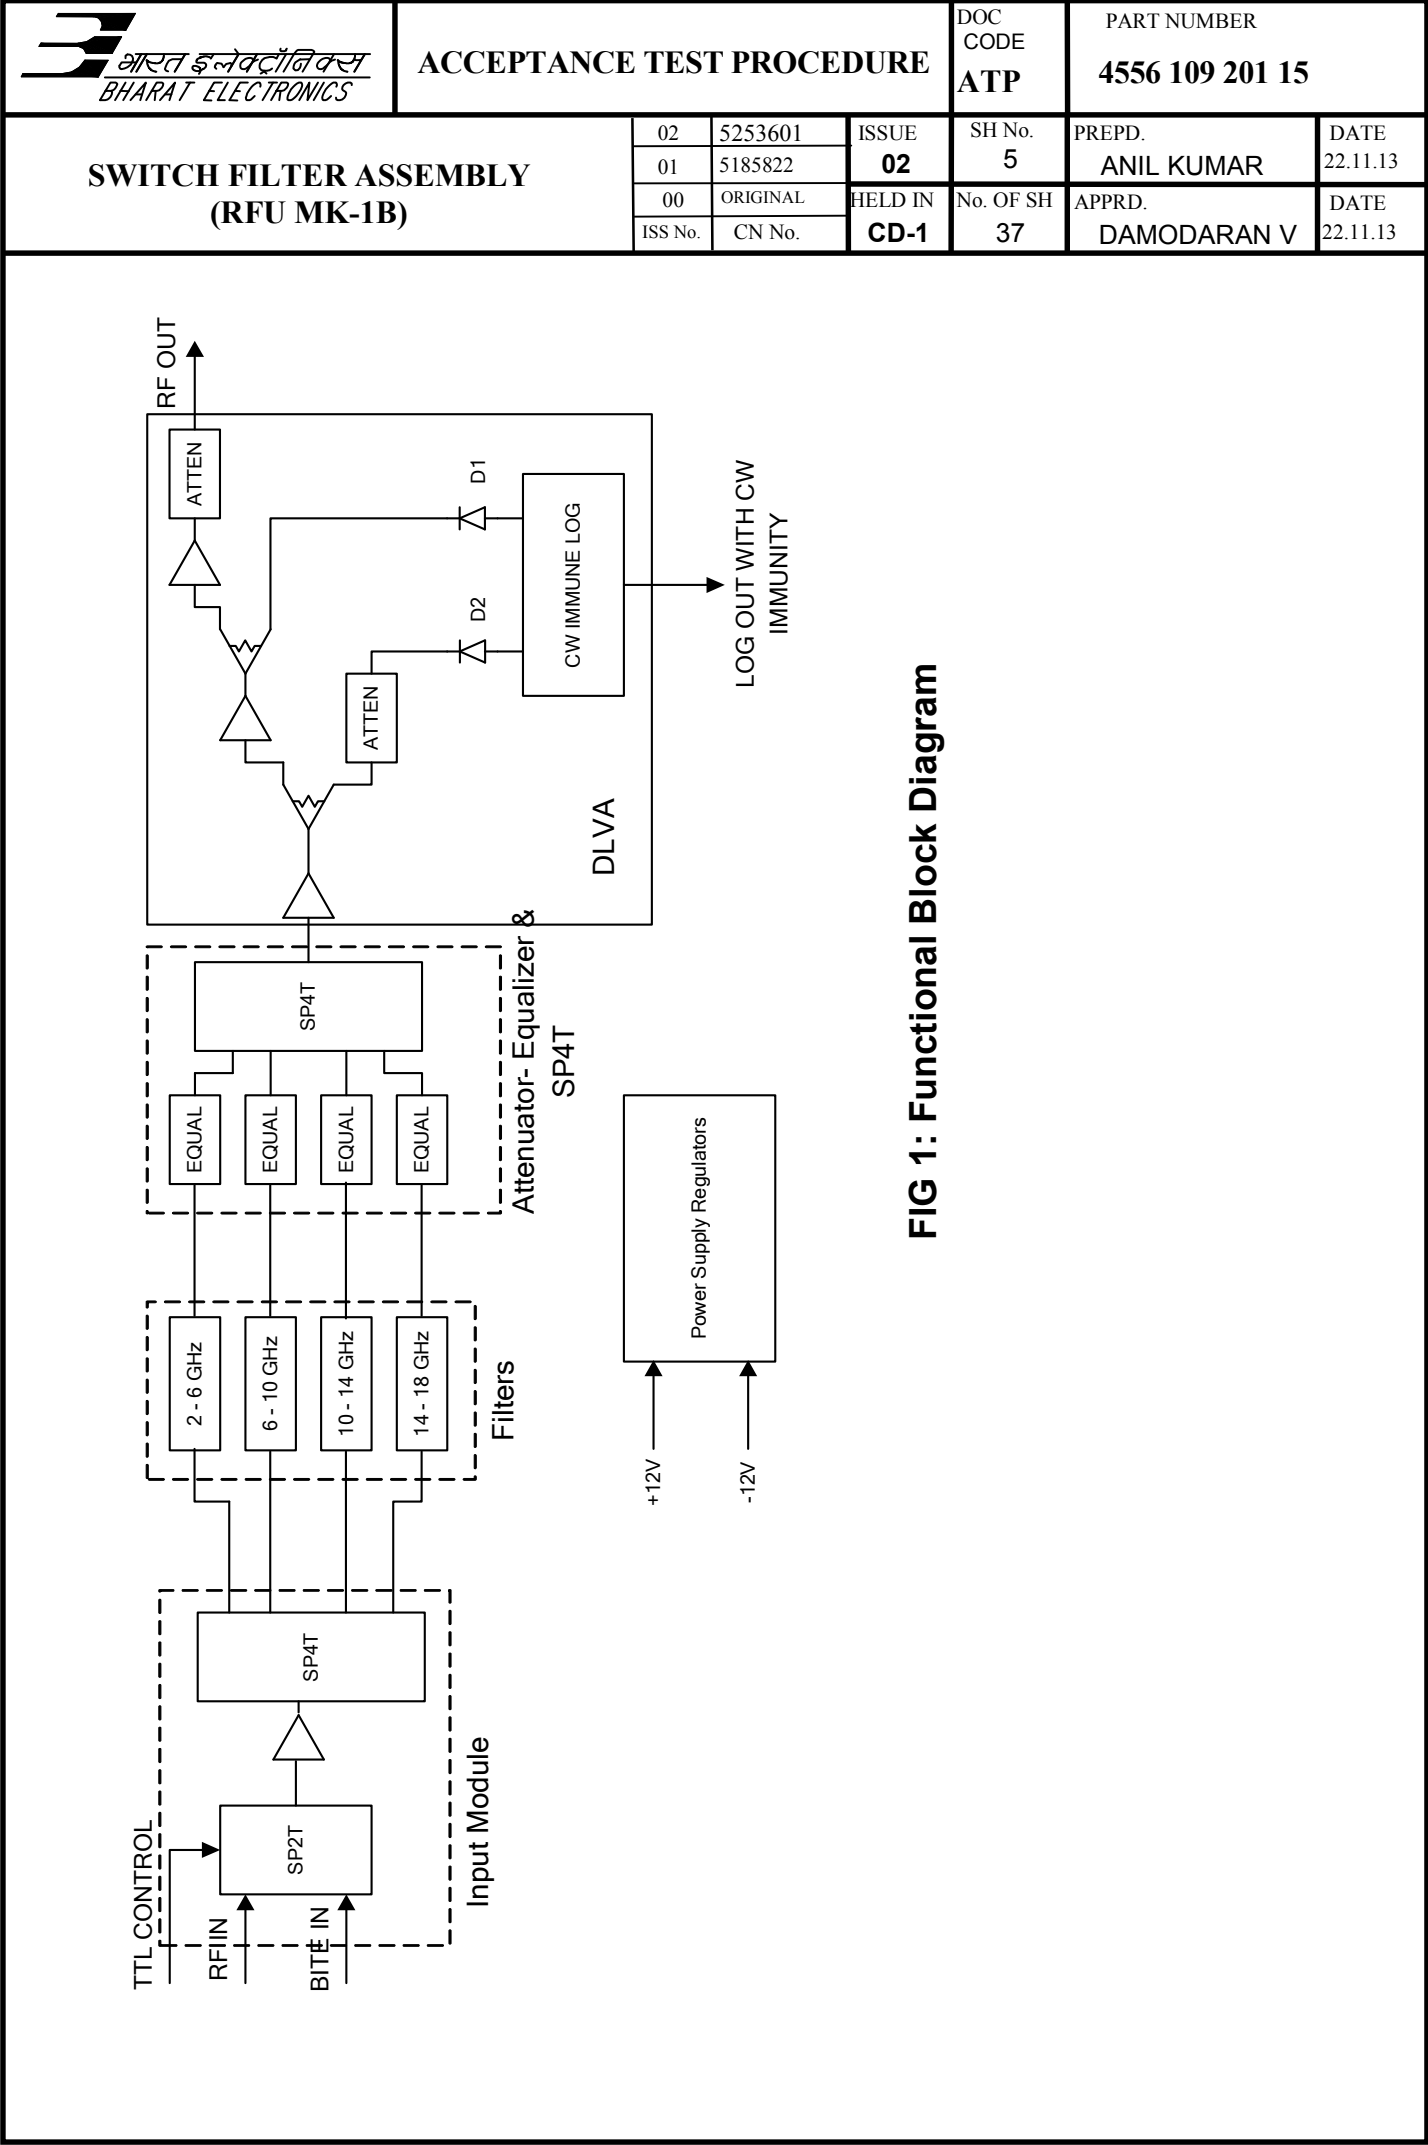

FIG 1: Functional Block Diagram
2.0 FUNCTIONAL DESCRIPTION: SFA operates in the frequency range of 2 - 18 GHz. SFA provides an accurate amplitude information of the received RF pulses. The unit has got two input ports for RF IN and BIT. The unit has got an RF output port. The unit houses in a 25 PIN D-type connector thru which power supply and control signals are fed to the unit and Log VID OUT is taken out. The functional block diagram is shown in Fig.1 Front end RF preamplification is provided to achieve a high sensitivity of -65dBm for amplitude measurement. The objective of SFA is to provide an accurate amplitude information on the received RF pulses. In addition, a RF output is available with a nominal RF gain 39±3.25dB for further processing.